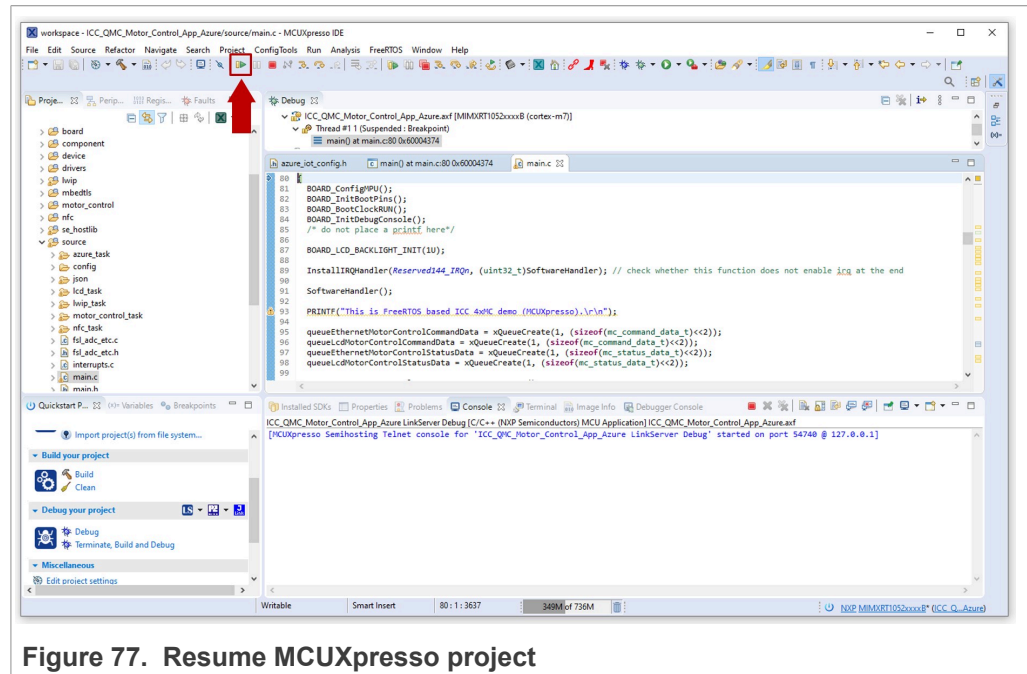

Figure 77. Resume MCUXpresso project
- The compilation and execution will take a few seconds. After that, it will automatically stop in a breakpoint. Click on Resume to allow the software to continue its execution as shown in Figure 77: